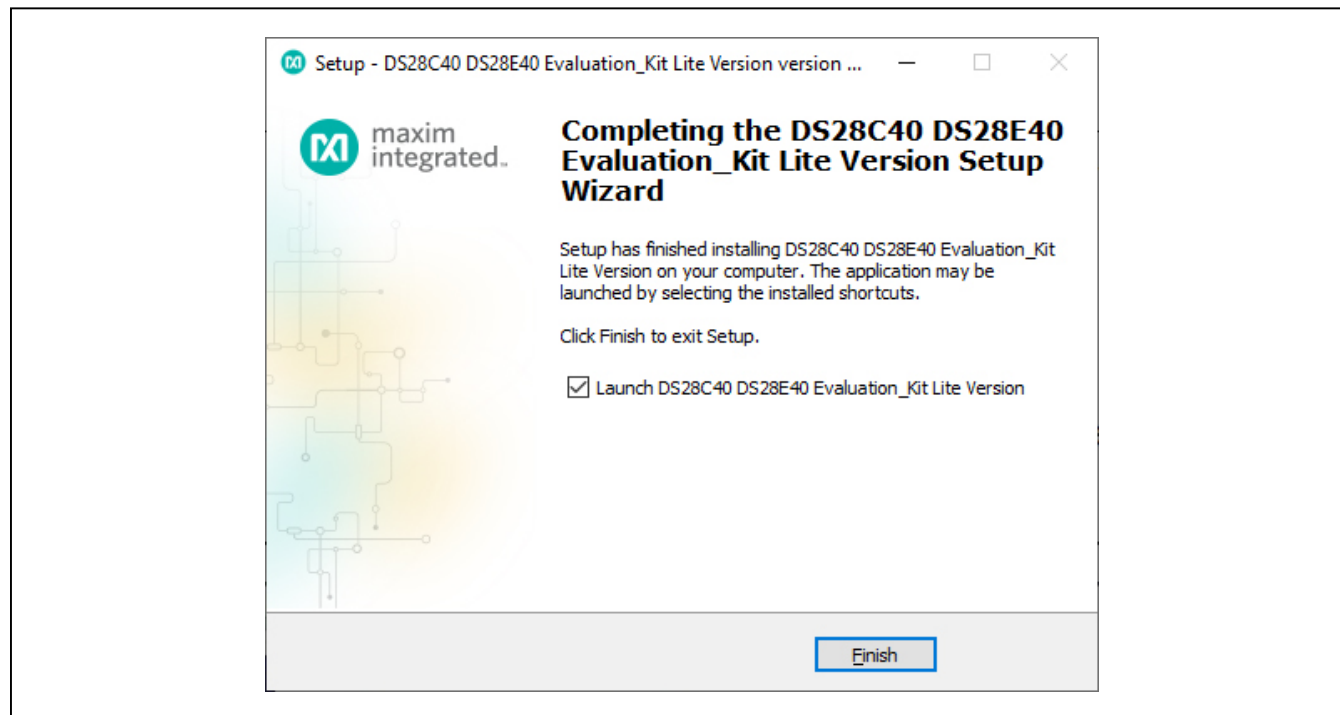

Figure 5. Run Software After Installation
- 5) Wait for the Installation to complete and launch program if desired after completion (Figure 5).